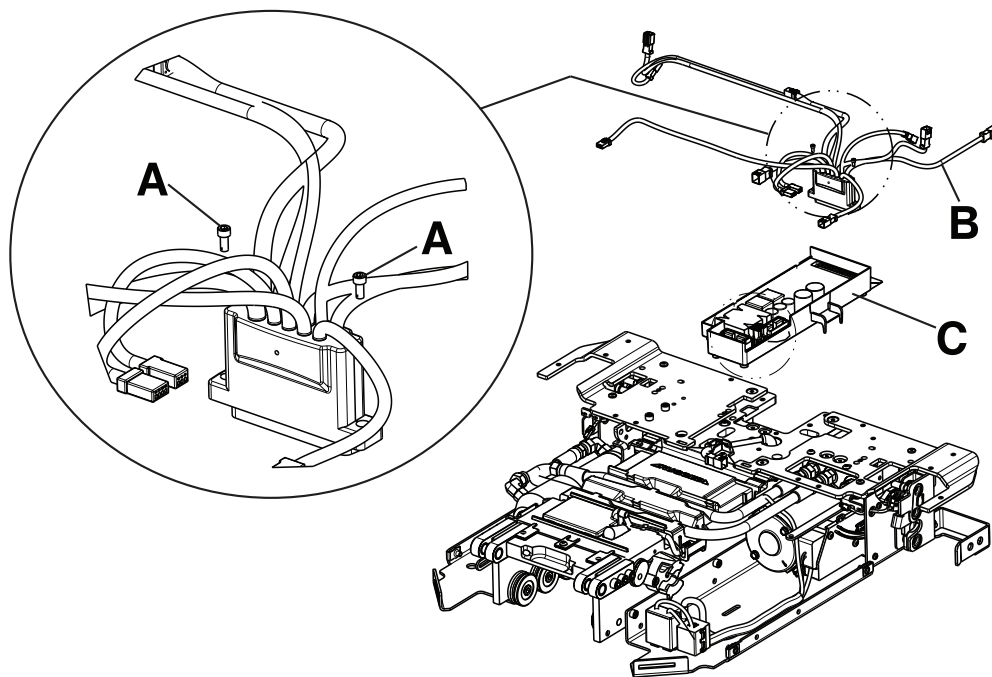

Figure 17 – Control board assembly
2. Using a 3/32" hex wrench, loosen (do not remove) the two screws (A) that secure the main cable assembly (B) to the control board assembly (Figure 17).
3. Unplug all of the other cables from the control board assembly (C). Remove and discard the control board assembly (Figure 17).